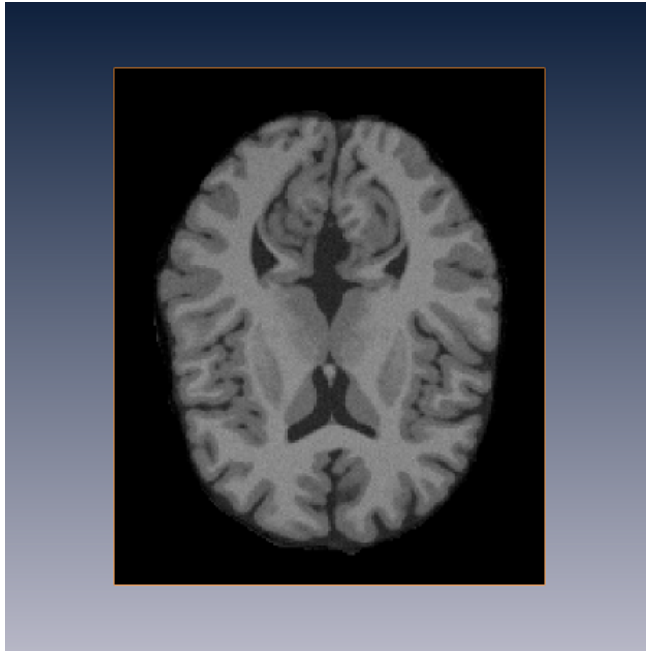

Figure 15.6: Central axial slice of the skull stripped reference data set
- In the *Expr.:* field of *Arithmetic* enter $A * (B > 0)$ and click *Apply*. Attach an *OrthoSlice* to the *Result* object. The display should look similar to Fig. 15.6.